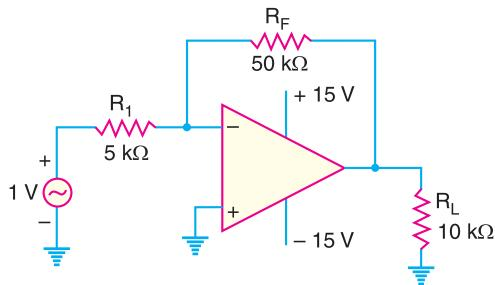

Fig. 25.101
7. For the circuit shown in Fig. 25.101, find (i) closed-loop voltage gain (ii) the instantaneous voltage across R_F when the signal voltage is +1V (iii) the instantaneous voltage on the –terminal when the signal voltage is +1V.